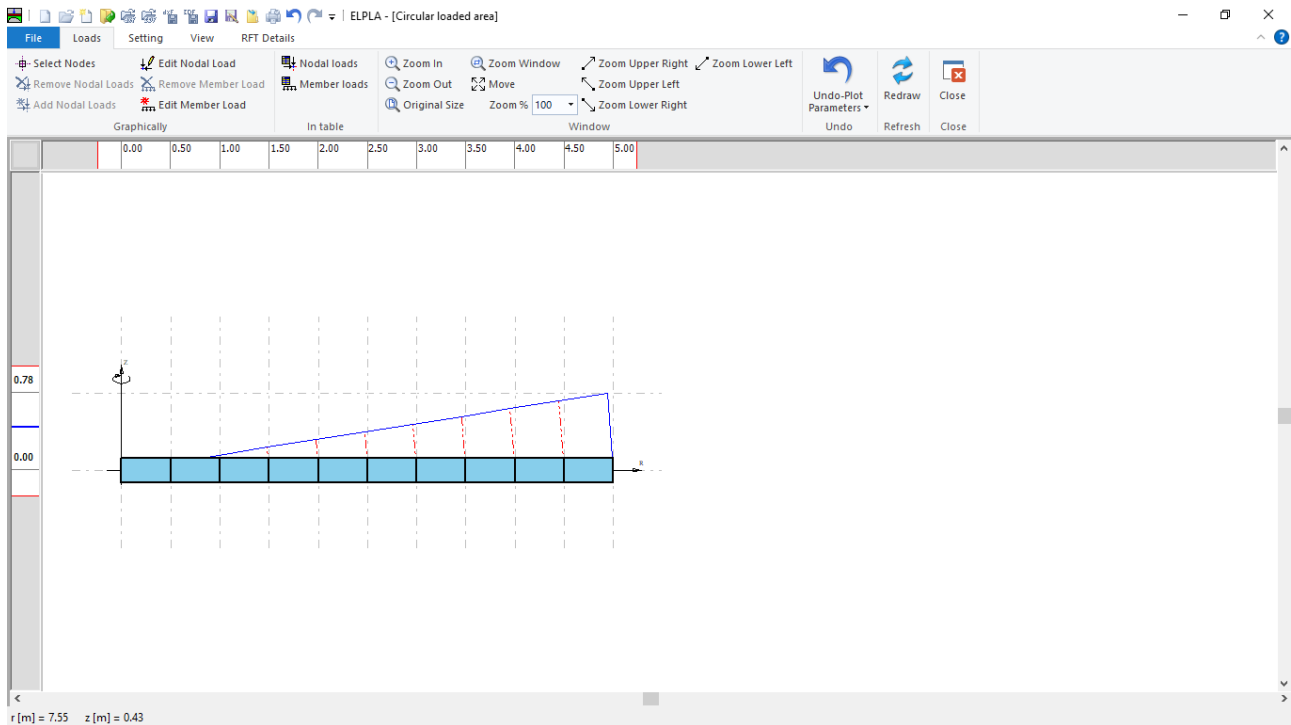

Figure 1.17 "Loads" Window
To define the loads, choose "Loads" command from "Data" Tab. The following window in Figure 1.17 appears. In *ELPLA*, entering loads may be carried out either numerically (in a table) or graphically using the commands of "Loads" Tab in Figure 1.17. In this example, there is not applied load, as the load has been already defined by the unit weight of the plate.
- Choose "Save" command from "File" menu in Figure 1.17 to save the load data
- Choose "Close" command from "File" menu in Figure 1.17 to close the "Loads" window and return to *ELPLA* main window